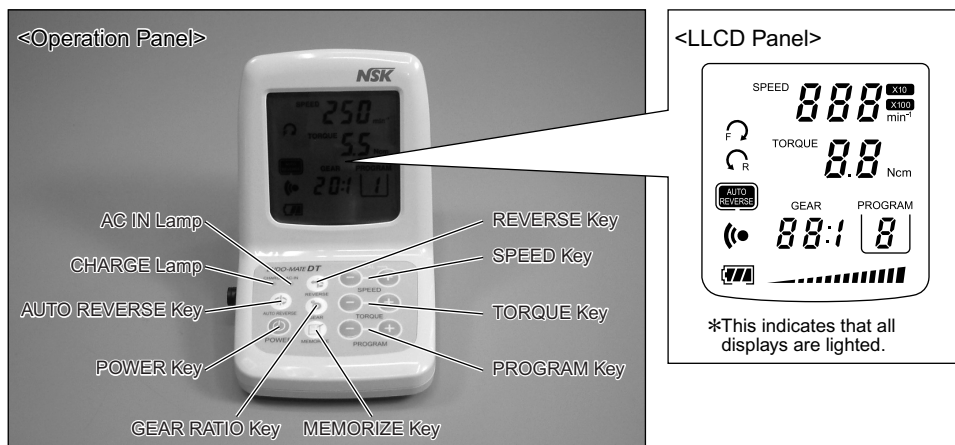

Fig. 2
① Control Unit
② Operation Panel
* See Fig. 2 “Operation Panel and LCD Panel.”
③ LCD Panel
- See Fig. 2 “Operation Panel and LCD Panel.”
④ Power Cord Connector